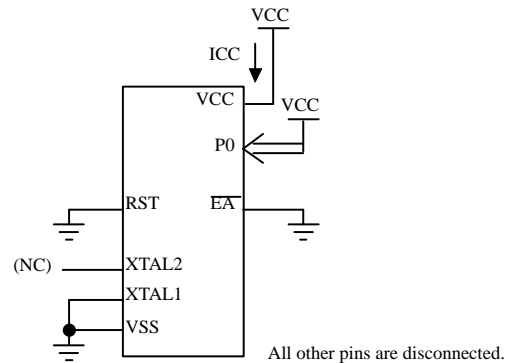

Figure 19. ICC Test Condition, Power Down Mode.
2. Idle ICC is measured with all output pins disconnected; XTAL1 driven with TCLCH, TCHCL = 5ns, $V_{IL} = V_{SS} + 0.5\text{V}$, $V_{IH} = V_{CC} - 0.5\text{V}$; XTAL2 N.C.; Port 0 = VCC; EA = RST = VSS (see Figure 19.).
3. Power Down ICC is measured with all output pins disconnected; $\overline{\text{EA}} = \text{PORT } 0 = V_{CC}$; XTAL2 NC.; RST = VSS (see Figure 19.).